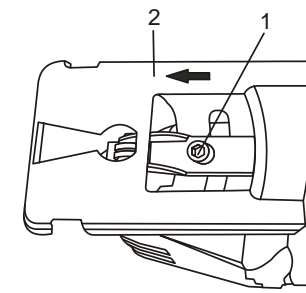

Fig. 4
1. Loosen the base pivot screw (1) until the base (2) can be slid forward (Fig. 4). **NOTE:** Use (3mm) hex key supplied with the tool.
Bevel cutting angles may be adjusted from 0° to 45° either left or right. To set the bevel angle, refer to Fig. 4 & 5.